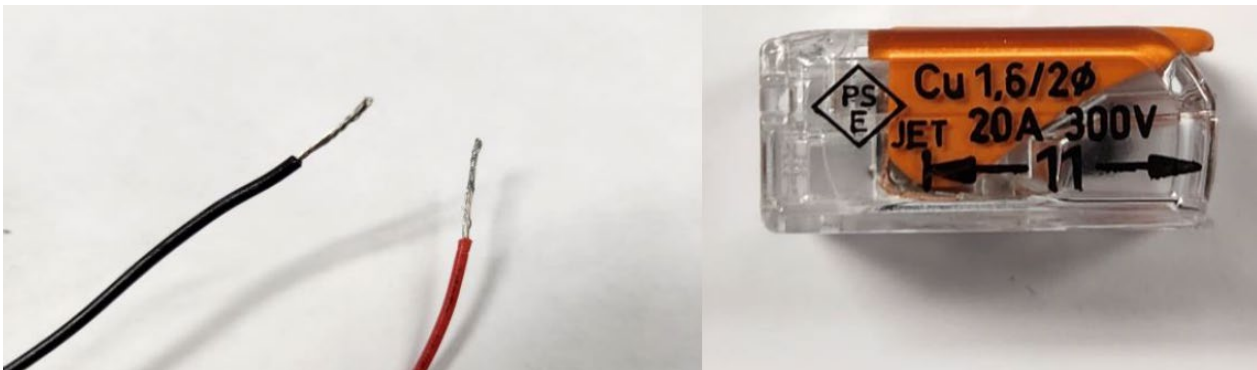

Figure 5: Black and red wire stripped. 11 mm indicator shown
- Use a 22 AWG wire stripper to strip black and red wires on the replacement light unit to 11 mm. Use the indicator on the side of wire splice connector included in the kit. Figure 5.